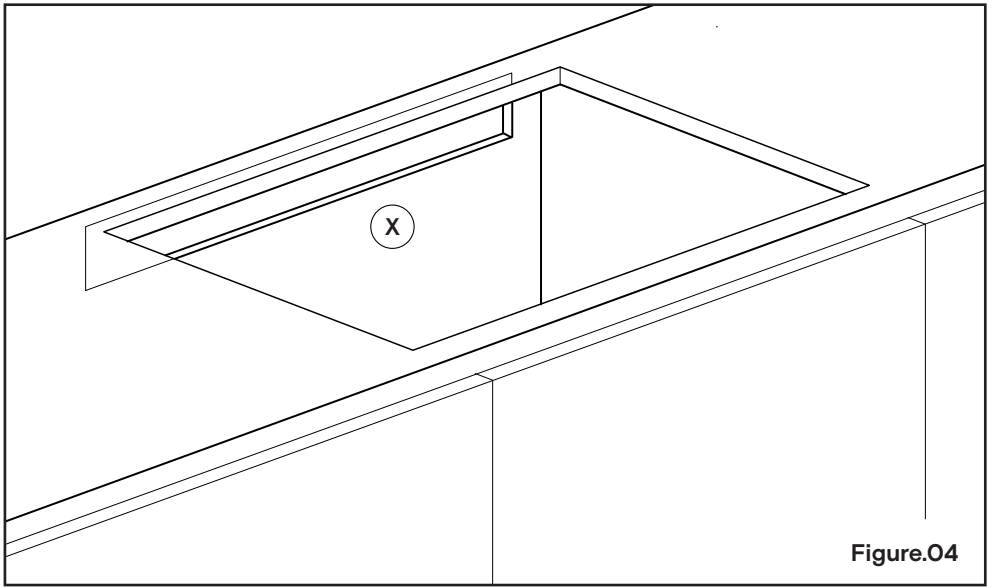

Figure.04
- › An opening at the top to the rear of the cabinet. **[Figure.04] [X]**